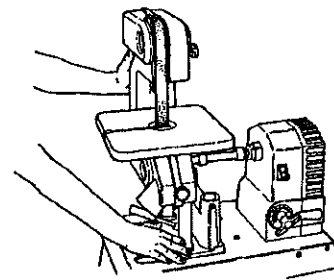

Fig.E-12
13. Line up the notches on the drive shaft hub with the ridges inside the coupler. Unlock the carriage, and with one hand on the carriage and another on the Strip Sander, slide the carriage so that the coupler on the Strip Sander fits over the drive shaft hub (31). See Fig.E-12.